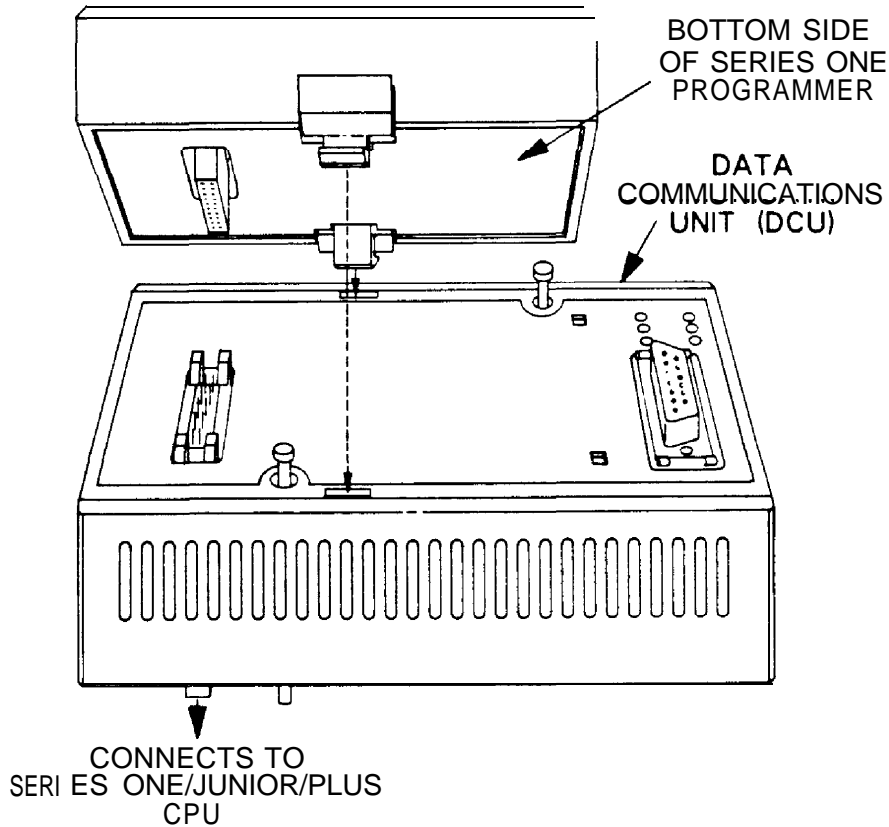

Figure 2.4 CONNECTING THE PROGRAMMER, DCU, AND CPU
3. With the Series One, Series One Junior, or Series One Plus CPU power off, connect the DCU to the CPU and the programmer to the DCU (if desired) as shown in Figure 2.4.